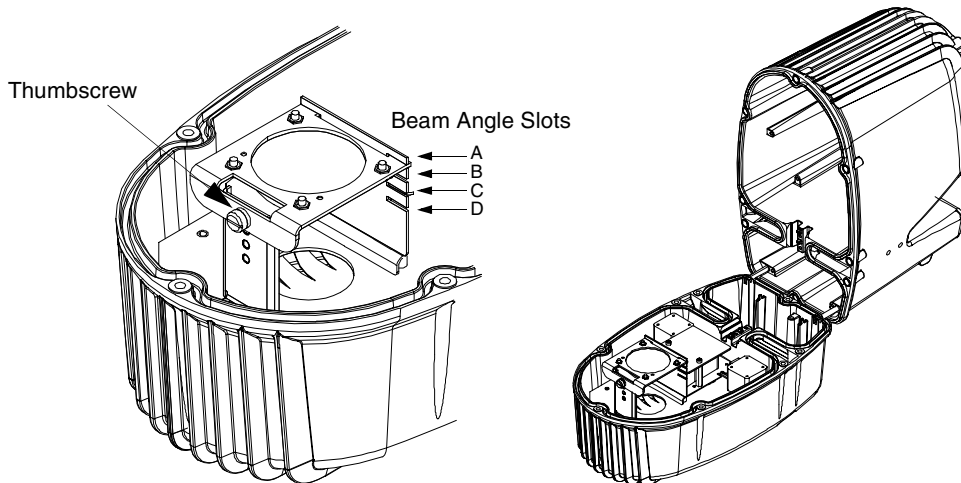

Figure 1-6 Locating the Beam Angle Slots
2. Slide the front housing forward and tilt into position to access the lens, (see Figure 1-6).
1. Loosen the front housing perimeter screws with a 3/16 allen wrench and open the fixture, (see Figure 1-5 and Figure 1-6).